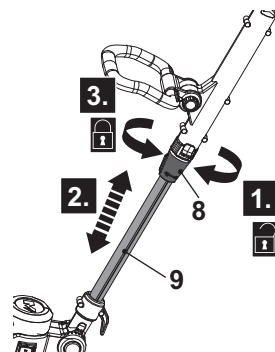

Fig. 7
1. Loosen the locking sleeve (8) in clockwise (Fig. 7, step 1).
2. Pull the lower pole (9) out or push it together to adjust the desired length (Fig. 7, step 2).
3. Tighten the locking sleeve (8) in anticlockwise (Fig. 7, step 3).